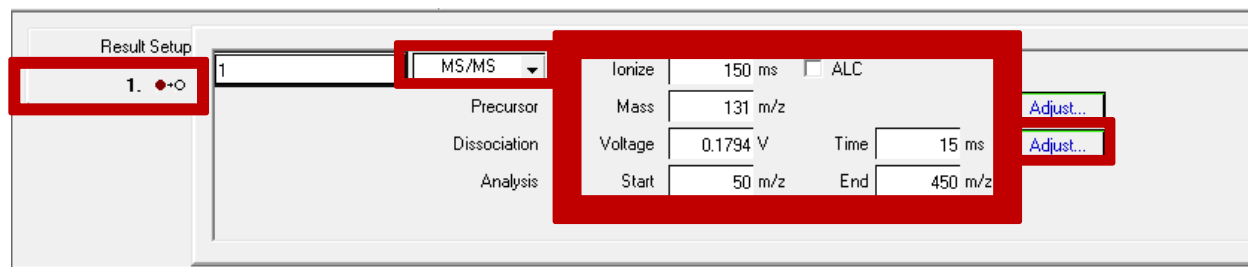

Figure 4.13 – MS/MS scan settings
1. In order to perform MS/MS on the analyte of interest, select “MS/MS” from the drop down menu (previously labeled “Full” for MS analysis). Upon selecting MS/MS, a window of MS/MS parameters will be available. The values that typically remain unchanged are Ionize (150 ms), ALC (unchecked), and mass range (start 50 m/z and end 450 m/z). Parameters that are altered consist of Mass (the m/z of the precursor or parent ion), Voltage (collision energy applied for dissociation/fragments), Frequency (accessed under the bottom “Adjust” menu), and Time (Figure 4.13). The values of these parameters are specific to the analyte of interest and result in idealized MS/MS signal. The values can be determined by entering the m/z of the precursor ion in for the “Mass” parameter and selecting “download scan configuration to instrument” resulting in software generated values for Voltage, Frequency, and Time. Another way of determining the values for these parameters is through semi-automated optimization of MS/MS method conditions, a process termed “macroing” or “compound-specific macroing.” The compound-specific macro is detailed in Section 4.2.
9. After recording all data values, close out of all windows except the original MS/MS scan from Step 1. Input the new frequency value in the window that results when clicking the bottom “Adjust” button in the MS/MS scan settings (Figure 4.13). Save this value to the instrument by pressing the “Download scan configurations to the instrument” button (Figure 4.7).
14. Input the new voltage (amplitude) value in the MS/MS scan settings (Figure 4.13). Save this value to the instrument by pressing the “Download scan configurations to the instrument” button (Figure 4.7).
19. Input the new duration (time) value in the MS/MS scan settings (Figure 4.13). Save this value to the instrument by pressing the “Download scan configurations to the instrument” button (Figure 4.7).